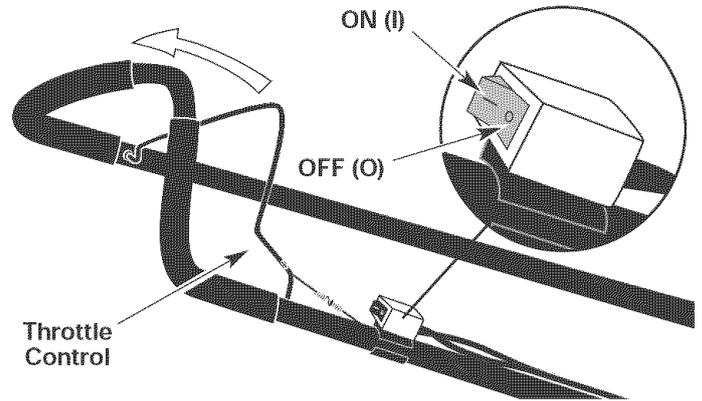

Fig. 10
3. Put the On/Off Stop Control in the **ON (I)** position (Fig. 10).